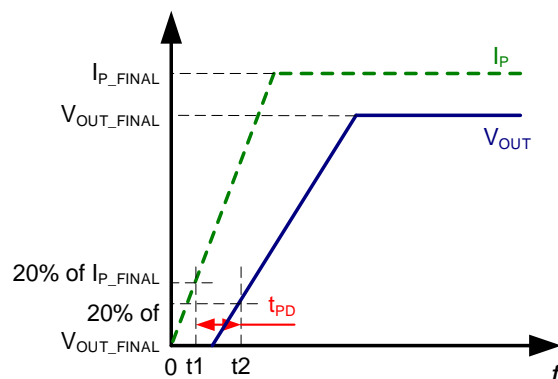

**Figure 5: Power-On Time ( $t_{PO}$ )**
2.  $t_2$ :  $V_{OUT}$  settles to 90% of its final value under an applied primary current (see Figure 5).